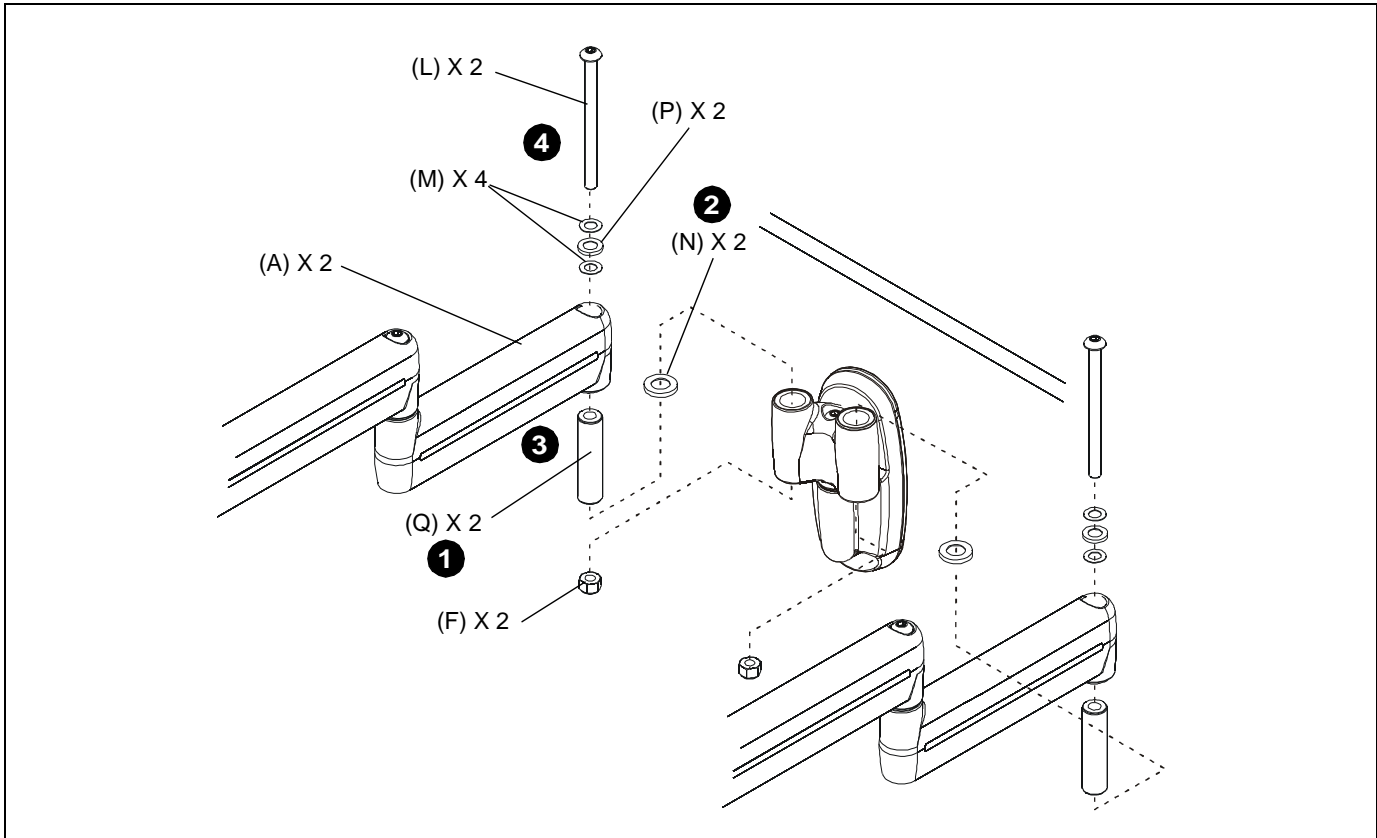

Figure 4
1. Insert pivot pin (Q) into Y-connector upper bore. (See Figure 4)
2. Install spacer (N). (See Figure 4)
3. Insert arm assembly (A) on pivot pin (Q). (See Figure 4)
4. While holding nut (F) in lower bore of Y-connector, insert 5/16-18 x 4" button head cap screw (L) through washers (M), UHMW washer (N), arm assembly (A), spacer (P) and Y-connector, into nut (F). (See Figure 4)
5. Loosely install screw (L) using 3/16" hex key (H). (See Figure 4)
6. Repeat Steps 1 through 5 for second mount arm assembly (A).